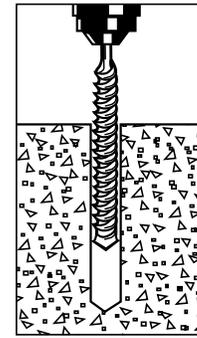

Figure 4
5. Drill the marked holes using a 1/4" masonry drill bit. Drill the holes into the concrete base to a depth of at least 1/2" deeper than the length of the 1/4" x 3" Wedge Bolt Anchors. Blow the hole clean of dust and debris (Figure 4).